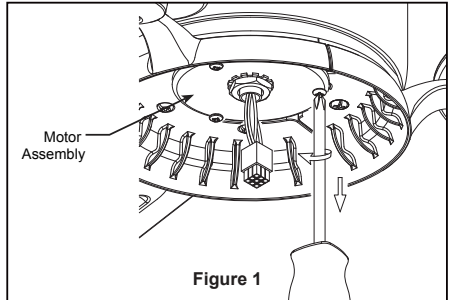

Figure 1
- 1. Remove one of the three screws in the support bracket at the bottom of the motor assembly. Retain the screw for later and slightly loosen the remaining two screws. (Figure 1)
1. Restore electrical power to the outlet box by turning the electricity on at the main fuse box. (Figure 1)